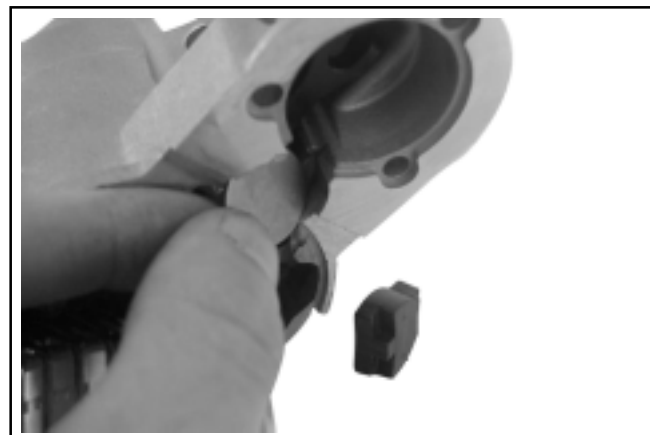

Figure 8-44.
7. Remove the drive lever pivot bushing and backing plate from the end cap. See Figure 8-44.